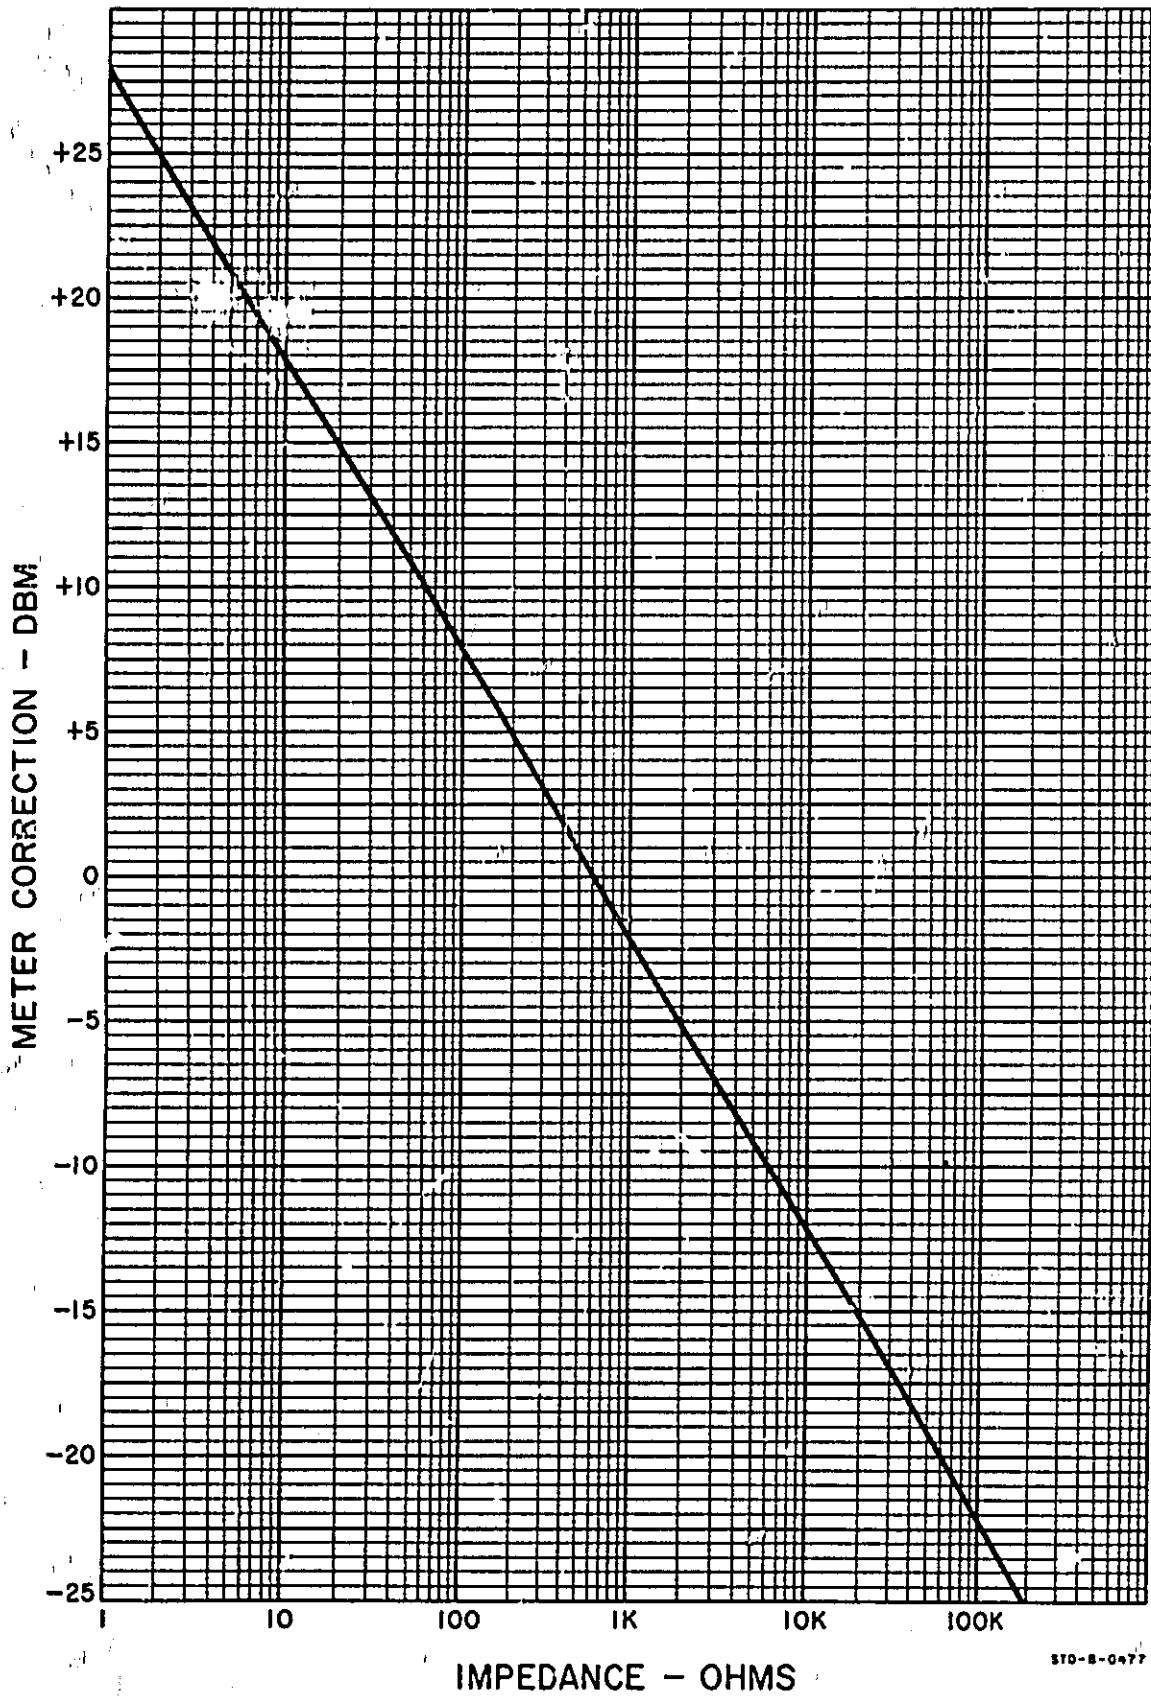

Figure 3-2. Impedance Correction Graph
- c. A reading in dB may be converted to dBm by using the Impedance Correction Graph (Figure 3-2). For example: to convert a -30 dB reading across 200 ohms to dBm, locate the 200Ω impedance on the bottom of the graph. Follow the impedance line to the heavy black line, and read the meter correction at that point. The correction for 200 ohms is +5 dBm; thus the corrected reading is -25 dBm.